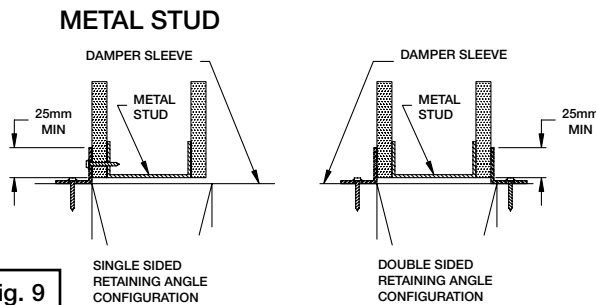

Fig. 9
- Frame wall openings as shown below. (see Fig. 9 & 10)